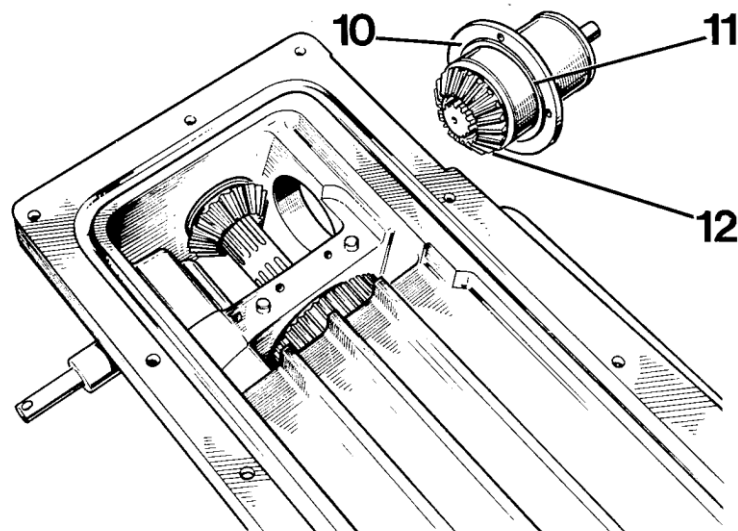

FIG. 3
- extract the input shaft (10) from the gear case (as shown in figure 3), carefully retaining the adjusting shims (11);
- remove the 21 tooth bevel gear (12) using two levers;